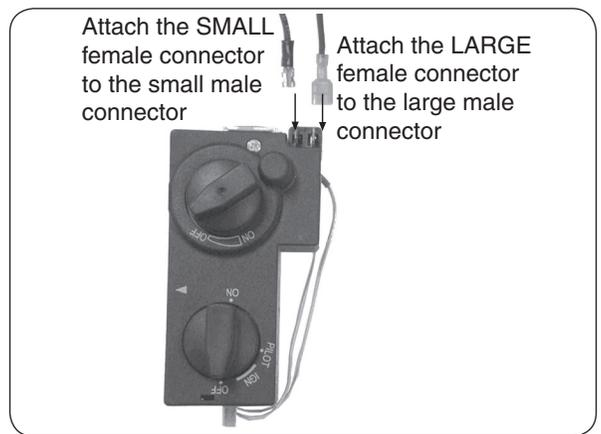

Fig. 2-1 Connect to 15 valve
1. Attach the LARGE female connector of the wire harness to the **OUTER** male spade located on the valve. Attach the SMALL female connector to the **INNER** male spade on the valve. See Fig. 2-1.